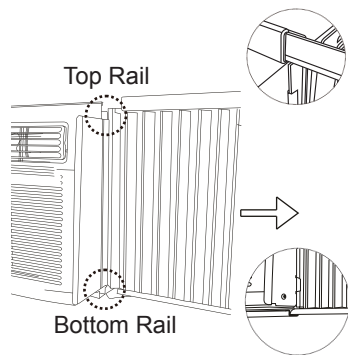

Fig.3
C. Once the panel has been installed on the side of the cabinet, make sure it sits securely inside the frame channel by making slight adjustments. Slide the top and bottom ends of the frame into the top and bottom rails of the cabinet. Fig. 3.